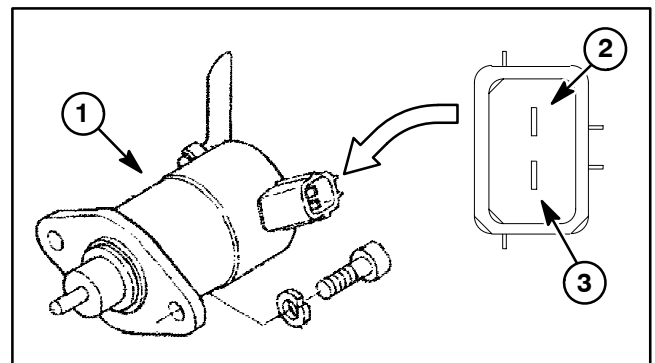

Figure 13
2. Using a digital multimeter, touch one test lead to the pull coil terminal and the other test lead to the fuel stop solenoid frame (ground) (Fig. 13). The resistance of the pull coil should be less than 1 ohm (but not zero).
3. Using a digital multimeter, touch one test lead to the hold coil terminal and the other test lead to the fuel stop solenoid frame (ground) (Fig. 13). The resistance of the hold coil should be approximately 15 ohms.
4. Touch a negative (–) test lead from the 12 VDC source to the fuel stop solenoid frame (ground) (Fig. 13). The solenoid should engage, making an audible “click,” and the plunger should retract.